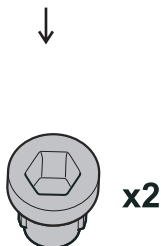

FIG.1
10. Refit the arm to the vehicle. NOTE: You may have to release the air from the rear of the bushing to guarantee the housing sits correctly for the mounting bolts - refer Fig.1.